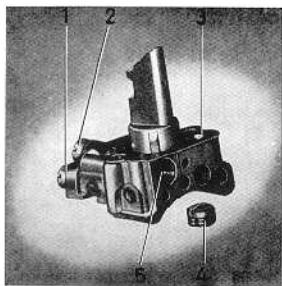

Fig. 83. Emulsion block
- Screw out all the jets from the emulsion block, see Fig. 83.